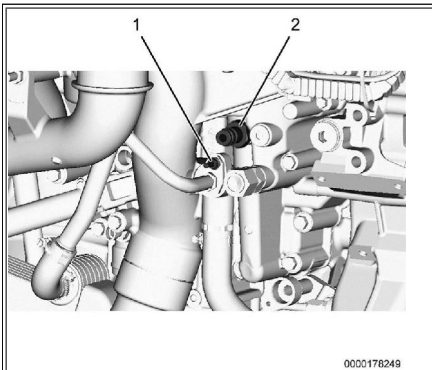

Figure 8: M6 Stud Bolt.
15b. Install adapter assembly fitting (Figure 8, Item 2). Using torque wrench, tighten fitting to 52 lb-ft (70 N•m).
15c. Install adapter assembly fitting (Figure 8, Item 2). Using torque wrench, tighten fitting to 34 lb-ft (45 N•m).
16. Install M6 stud bolt (Figure 8, Item 1). Using torque wrench, tighten stud bolt to 10 lb-ft (13 N•m).
17. Using P-80®, lubricate adapter fitting (Figure 8, Item 2).